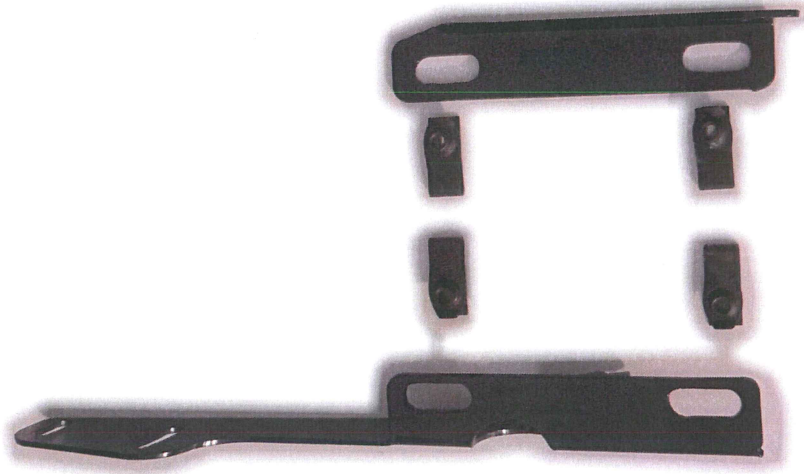

Figure 2
2. Take the Heater Support Brackets and install the U-Nuts onto the bracket as shown in Figure 2.